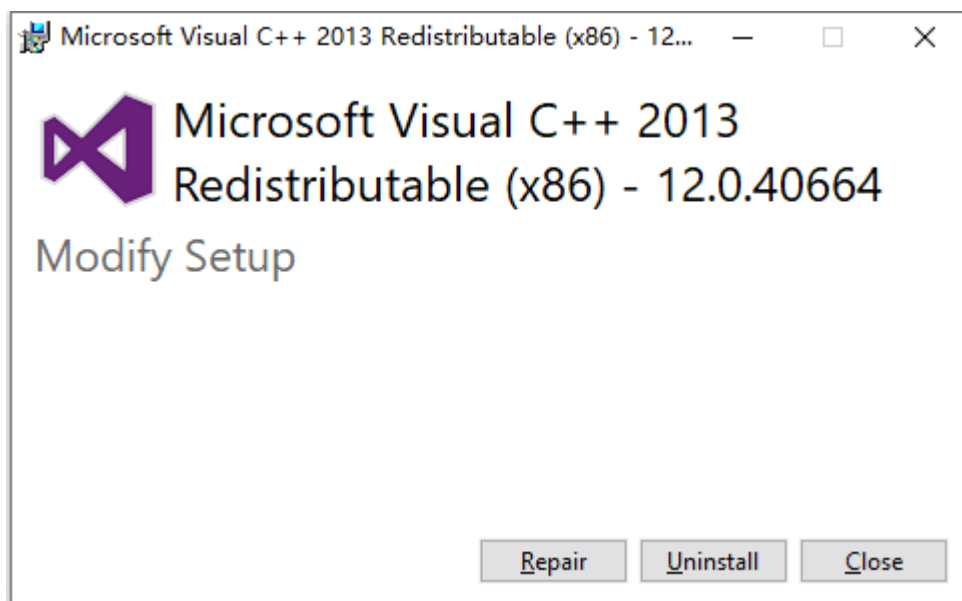

Figure 2.2-6
(8) Wait for the installation to complete, a prompt will appear to install the runtime environment dialog box, which is used to install the necessary operating environment of the software, as shown in Figure 2.2-6: